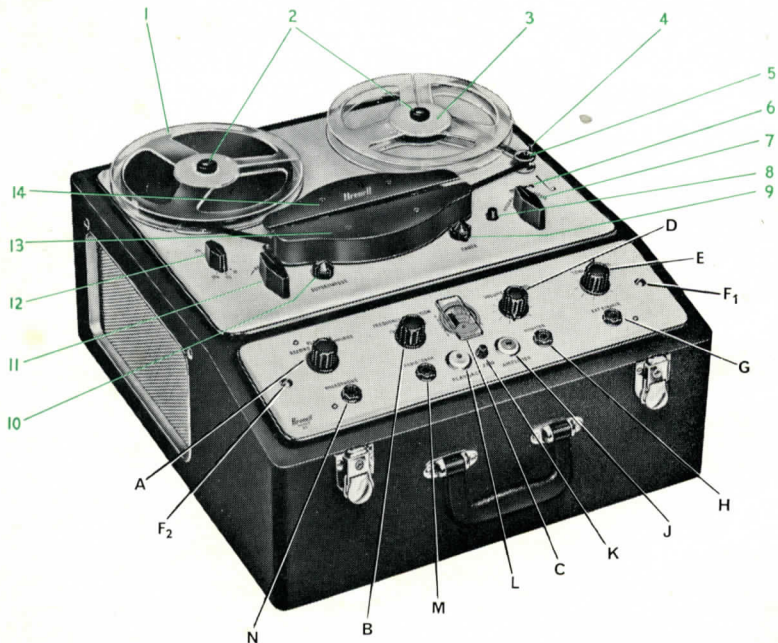

Fig. 1
- 3 Select recording speed and adjust the frequency correction switch (B, Fig. 1) to match. (The faster the tape speed the